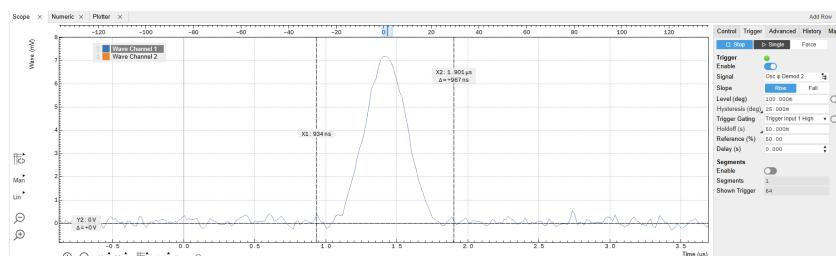
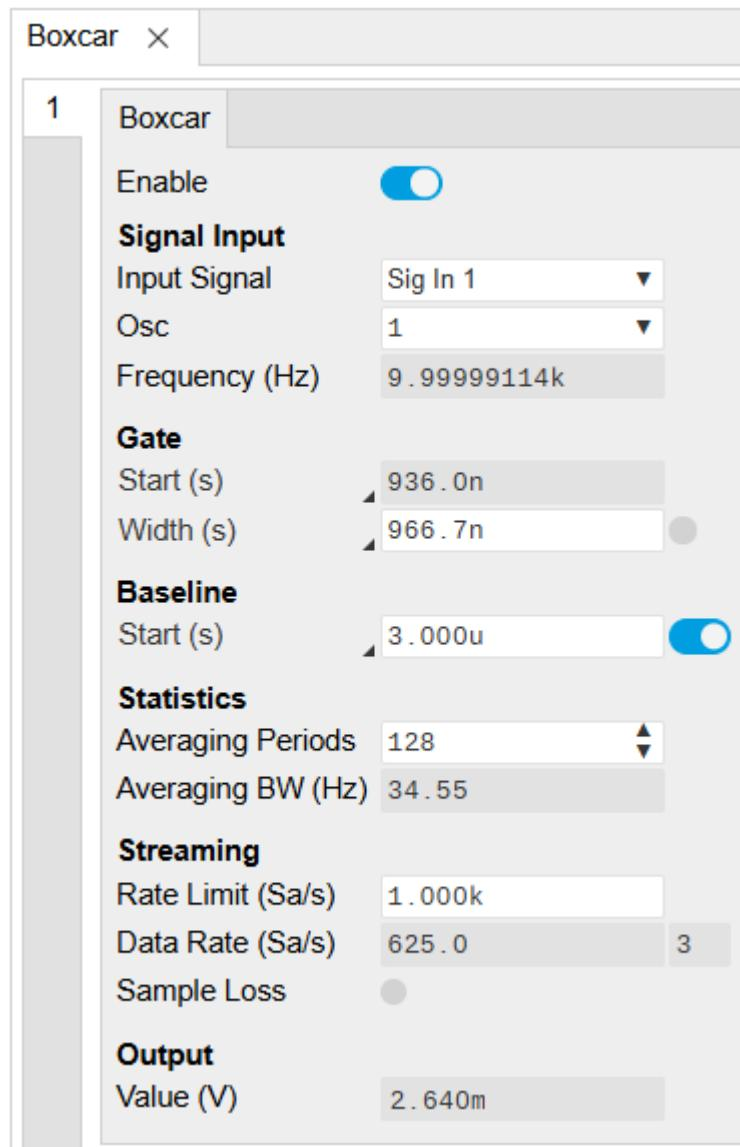

Figure 4.42: Zoom-in of a scope shot with a single pulse
Figure 4.43: Boxcar tab configuration with the Scope
The LabOne Scope on the MFLI can be used to observe the generated pulsed waveform. Connect the output of the AWG directly to Voltage Input of the MFLI instrument. The Scope settings in LabOne are given in the table below and shown in Figure 4.42. Additionally, the AWG provides a TTL synchronization signal to be connected to one of the Trigger Inputs (back panel). This trigger signal is used as an external reference to lock to the repetition rate of the pulse train.
On the Scope plotting area, one should now be able to observe a waveform similar to the one in Figure 4.42. The Scope is set to self trigger at every cycle of the oscillator phase. Use the horizontal zoom to focus on a single period. This can be done by rolling the mouse wheel forward to zoom in the horizontal axis. To zoom in on the vertical axis, press down the Shift key and roll the mouse wheel. One can also recenter the waveform by pressing on the left mouse button and dragging the Scope plot area. In cases where the noise doesn't allow to resolve the pulses properly, the averaging function of the Scope can be used to improve the sharpness.
Figure 4.43 shows the LabOne Boxcar tab. Either the Current Input or the Voltage Input can be selected as the input signal; the boxcar averager integrates and normalizes a section of the input signal and generates an output signal in units of volt (V) or ampere (A). In this example, we will use the Voltage Input. The amplitude value of each sample within the integration window is summed and output from the Adder after each period. This sum is then normalized by the Boxcar window's width. The integration window must be set manually in the Start (deg or s) and Width (deg or s) fields. Additionally, a reference oscillator must be chosen; here, we utilize the oscillator 1 locked to the external reference. The position and width of the integration window can be manually set. To determine the desired values, two possible workflows can be employed: using the Scope or the Sweeper. To further increase the SNR, a moving average filter can be applied to the boxcar output. To do so, one can increase the number of averaging periods. The number of averaging periods indicates how many subsequent periods the integrated values are averaged before outputting the final result. If the averaging periods are set to 1, each consecutive integrated value is output. Increasing the number averaged periods has the effect of improving the SNR at the cost of measurement time, since a longer time is necessary before the result is calculated - similar to the compromise between measurement speed and noise rejection when setting a certain low-pass
The configuration of the Boxcar averager with the Scope can be very convenient, especially in cases where the amplitude of the pulse train is well above the noise floor. For the configuration of the Start and Width with the Scope, we set the units to seconds (s) in the boxcar tab. We then record a Scope shot with the Scope tab, making sure that the scope is set to Trigger to the correct Oscillator phase, in our case Osc φ Demod 2. By zooming in around the pulse closest to the time 0 of the Scope time axis in the positive times region, we can then move the vertical cursors and set them around the pulse, copying the displayed values to the Start (first cursor) and Width (Δ) settings in the Boxcar Tab. This setup is shown in Figure 4.42, with the corresponding boxcar settings in Figure 4.43. By enabling the Boxcar, the data is now streamed to the computer.